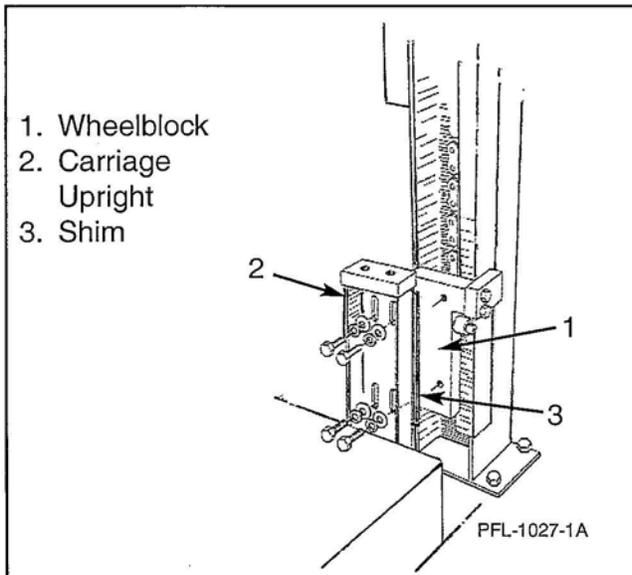

Figure 12
15. Bolt right side of the carriage upright to the wheelblock with 5/8" hardware provided. Repeat procedure for left near side beam. Do not forget to install the 1/8" wheelblock shims that are shipped loose. See Figure 12.